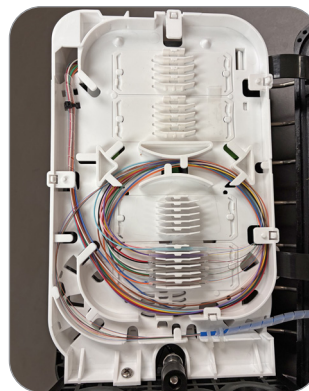

Figure 29
2. Ensure all slack is dressed neatly in the splice trays. (Figure 29)